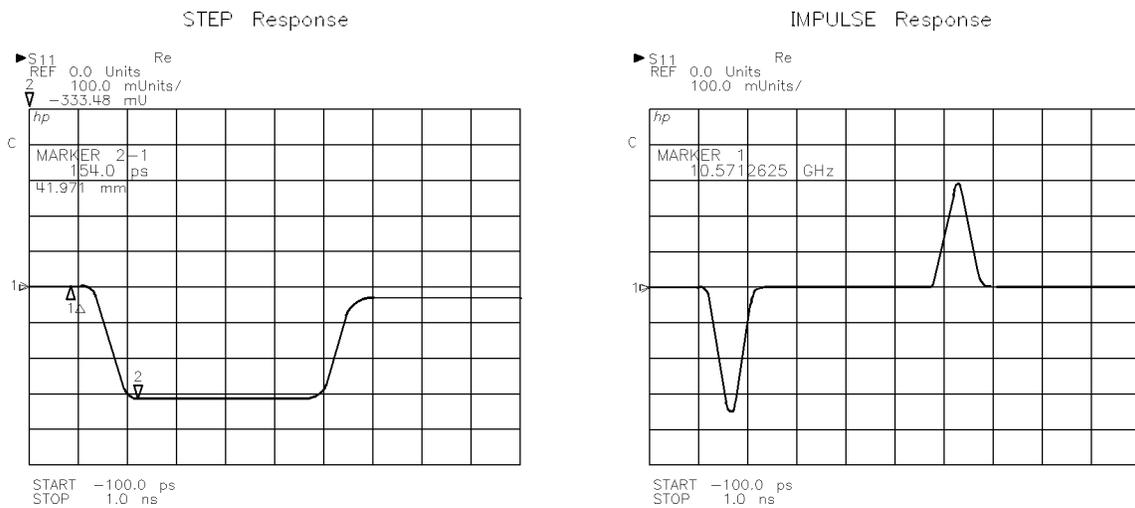

Figure 11-6. Time Low Pass Step Response of a 25  $\Omega$  Airline and Fixed Load
7. Press **AUTO** to view the STEP response (example in Figure 11-6).
Masking occurs when an Impulse or Step response of one discontinuity affects (or hides) the response of subsequent discontinuities in the circuit. This occurs because the energy reflected from (or absorbed in) the first discontinuity never reaches the second. In the  $25\Omega$  airline example (Figure 11-6), the Time Low Pass step response shows a  $-0.33$  reflection coefficient at the first discontinuity, which is the correct value for an impedance of  $25\Omega$ . However, at the end of the  $25\Omega$  section, the response does not return to zero reflection coefficient, which would be expected for a  $50\Omega$  impedance. The reason is that the step incident on the second response is of less than unity amplitude because of the energy reflected in the first mismatch.